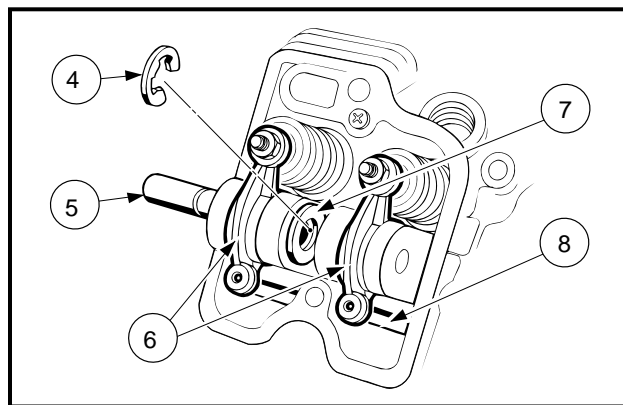

Figure 13-10 Rocker Shaft Removal
- MARK THE ROCKER ARMS (6) AND THE PUSH RODS (8) SO THEY CAN BE PUT BACK IN THEIR ORIGINAL POSITIONS (**FIGURE 13-10, PAGE 13-10**).
2. Remove the E-ring (4) and pull the rocker shaft (5) out of the cylinder head (**Figure 13-10, Page 13-10**).
3. Lift out the rocker arms (6), washer (7), and push rods (8) (**Figure 13-10, Page 13-10**).